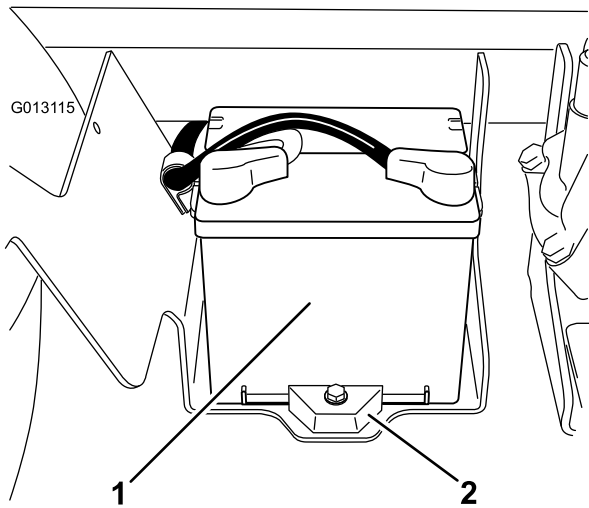

Figure 57
2. The battery is located on the right hand side of the machine behind the pump (Figure 57).
5. Remove the battery retainer and fasteners (Figure 57).
2. Install the battery retainer and secure it with the fasteners you removed previously (Figure 57).
4. Install the battery cover and secure it with the 2 knobs (Figure 57).
1. Loosen the knobs on the sides of the battery box and remove the battery cover (Figure 57).